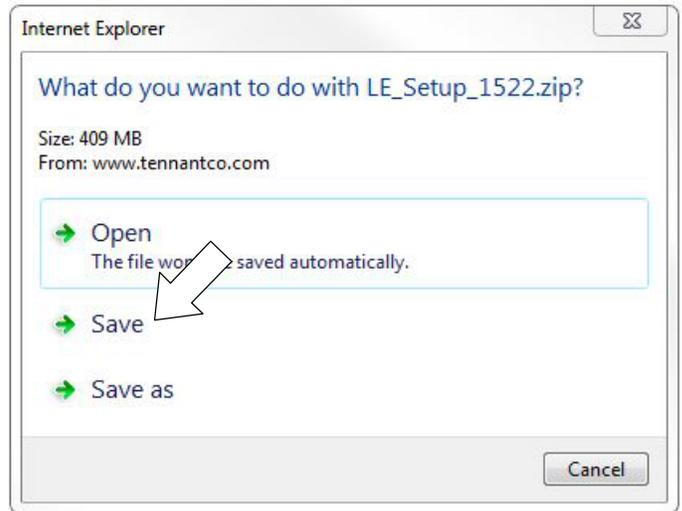

Fig. 35
5. To download the service software continue to click as instructed then click the Save button (Figure 35).